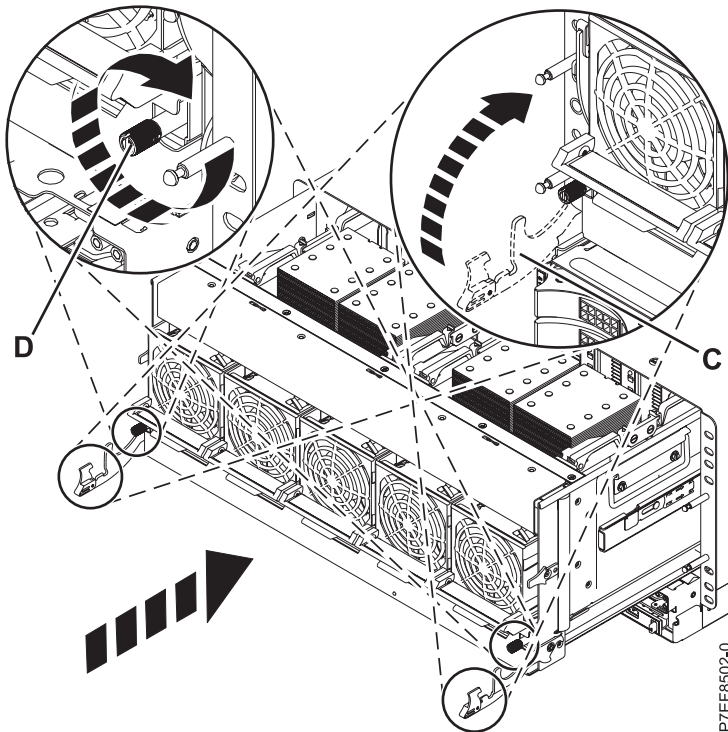

Figure 7. Completing the system processor assembly installation
- a. Ensure that the handles (C) are in the unlocked position. See Figure 7.
- b. Rotate the handles (C) up and push toward the enclosure until they lock into place.
- c. By using a slotted screwdriver, tighten both the captive screws (D), if present.